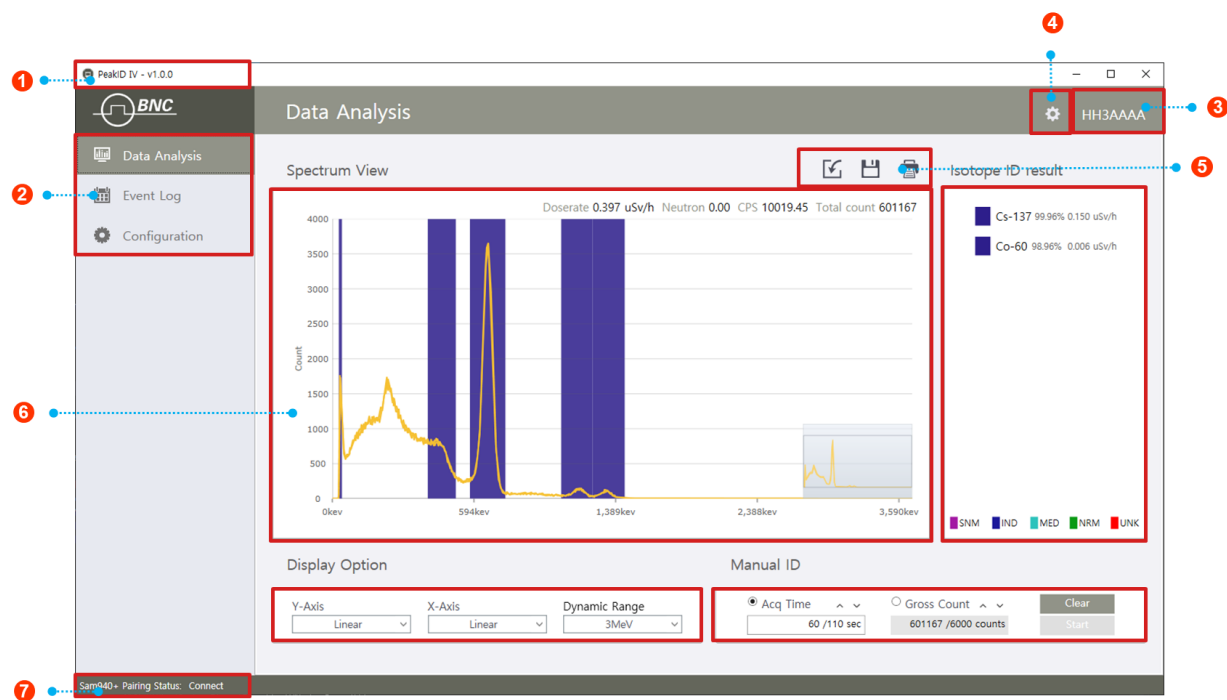

Figure 7.4.1. PeakID GUI
The home GUI (graphic user interface) of PeakID IV is shown in figure 7.4.1. It consists of tab menu bar on the left side of screen ① and several partitioned windows for spectrum display, command functions and other information. The partitioned windows and its contents are changed depend on selected menu.